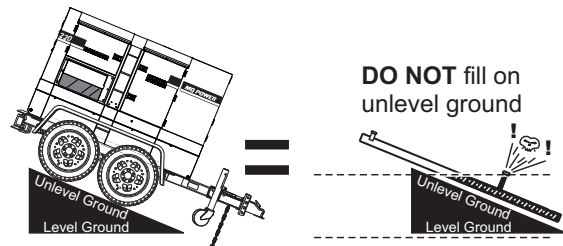

Figure 39. Only Fill On Level Ground
1. **Level Tanks** — Make sure fuel cells are level with the ground. Failure to do so will cause fuel to spill from the tank before reaching full capacity (Figure 39).